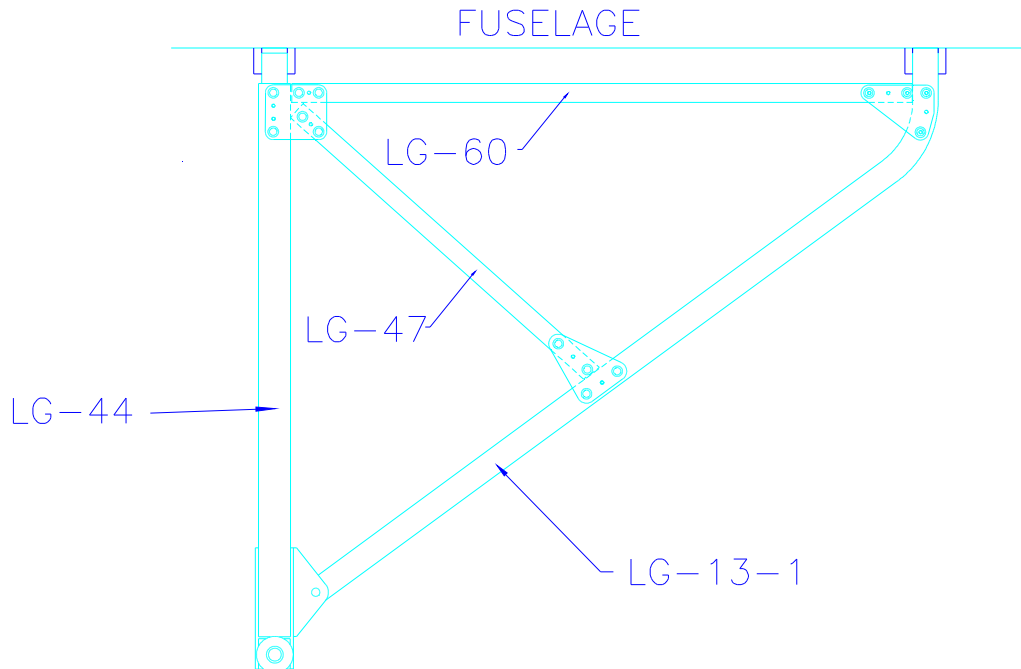

Figure 15.4.4
- 4) Cut the LG-60 channel to length if necessary with reliefs to fit between the gear legs at the top as in Figure 15.4.4.
- 5) Drill in place using the gusset holes as a template. Figure 15.4.4.